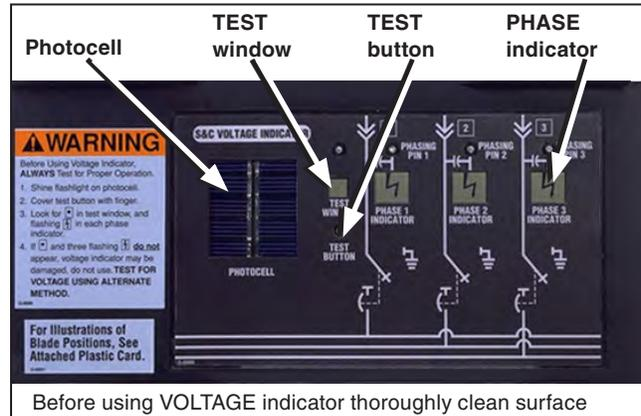

Figure 43. The VOLTAGE indicator with Test feature.
STEP 1. Clean the surface of the VOLTAGE indicator of dirt and debris. See Figure 43.